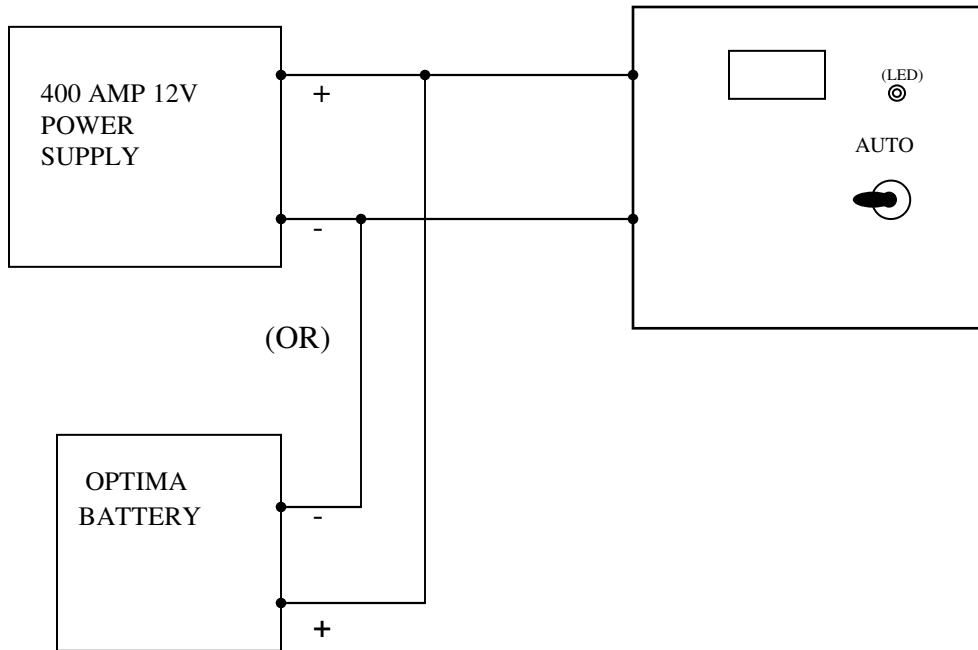

Figure 3 Timing Setup Test
- 4.1.8 TIMING TEST, Connect per Figure 3, refer to table 4 for tolerances.